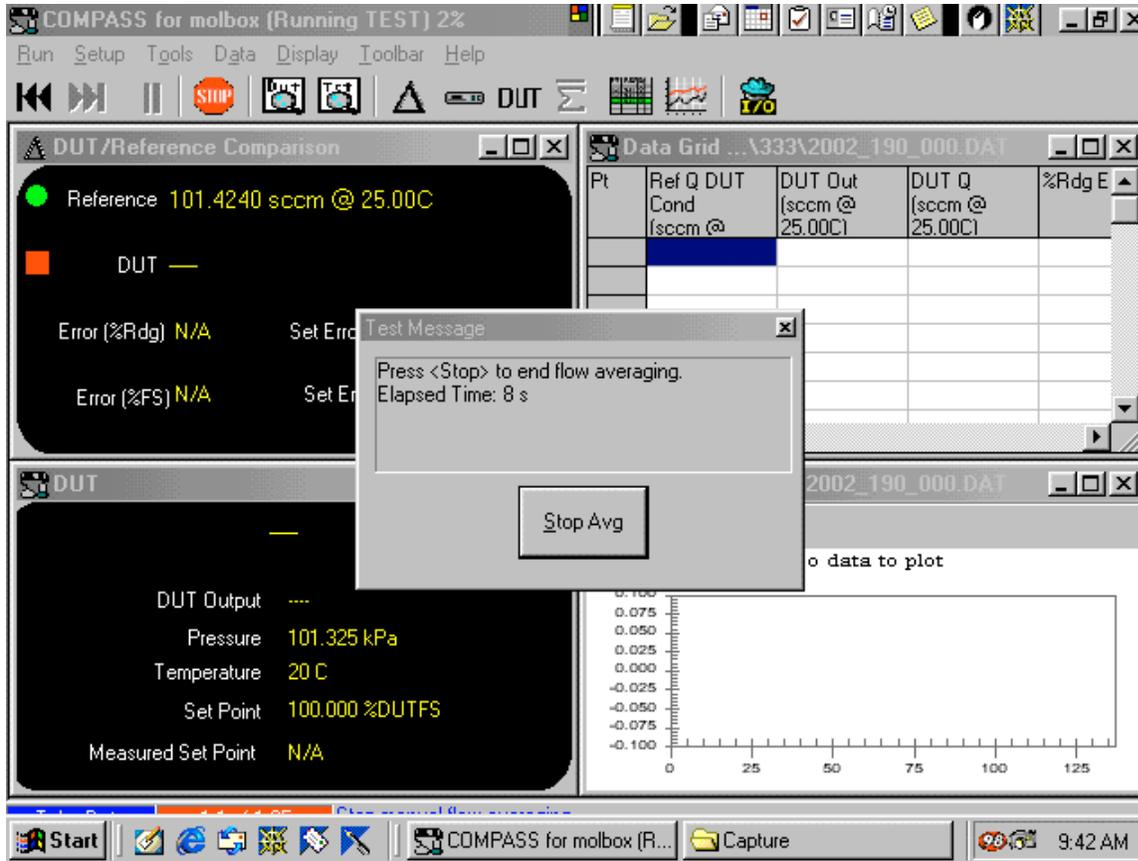

Figure 29 - Average for twenty seconds
11.4.9 Average for twenty seconds and click on "**Stop Avg.**" (See figure 29).